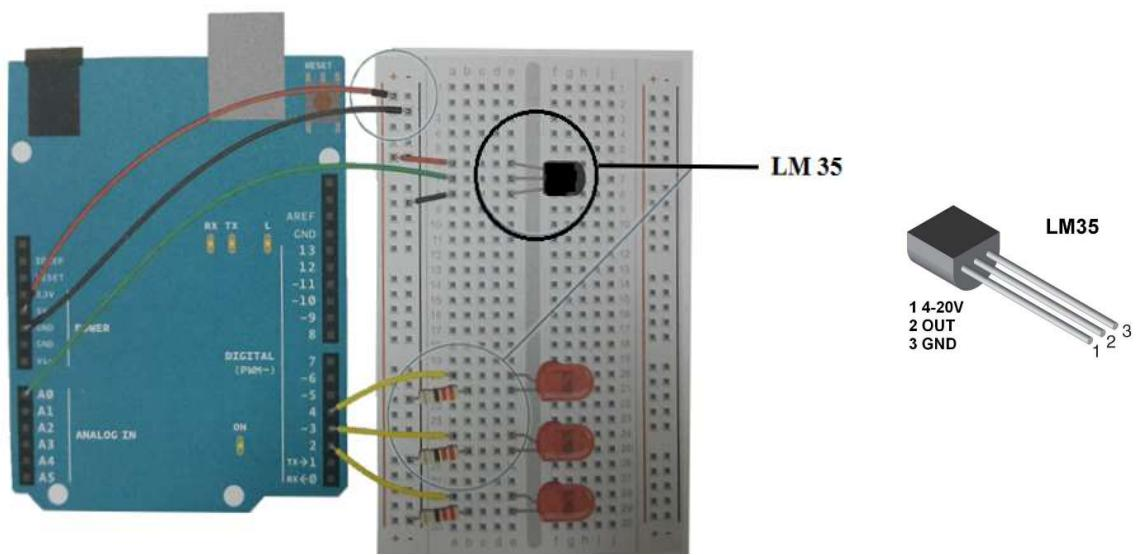

Figure 2: Validation circuit (interactive)
- Implement the circuit given on Figure 2.